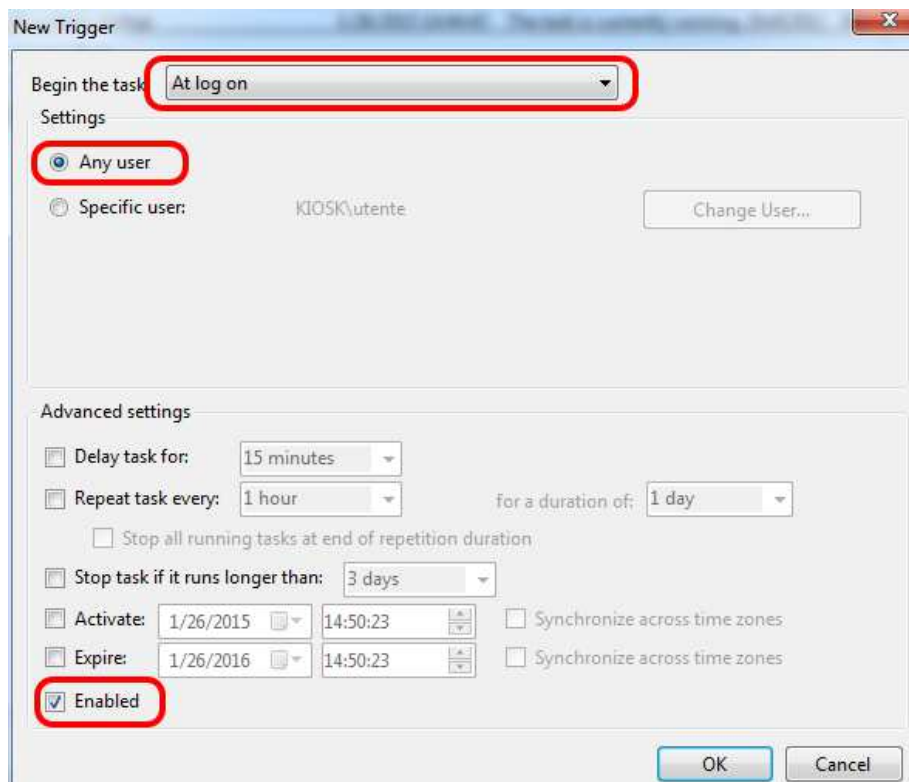

Fig. C.29: New Trigger configuration
STEP 4 – In *Create Task* window please select *Tab Triggers* to create a new trigger. Select *At log on* and *Any user*. Be sure *Enabled* checkbox is selected (Fig. C.29).